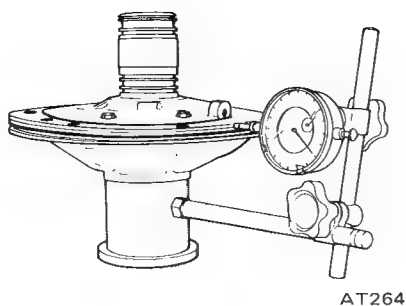

Fig. AT-99 Measuring runout
4. Set the runout of oil pump cover within 0.07 mm (0.0028 in) total indicator reading. See Figure AT-99.